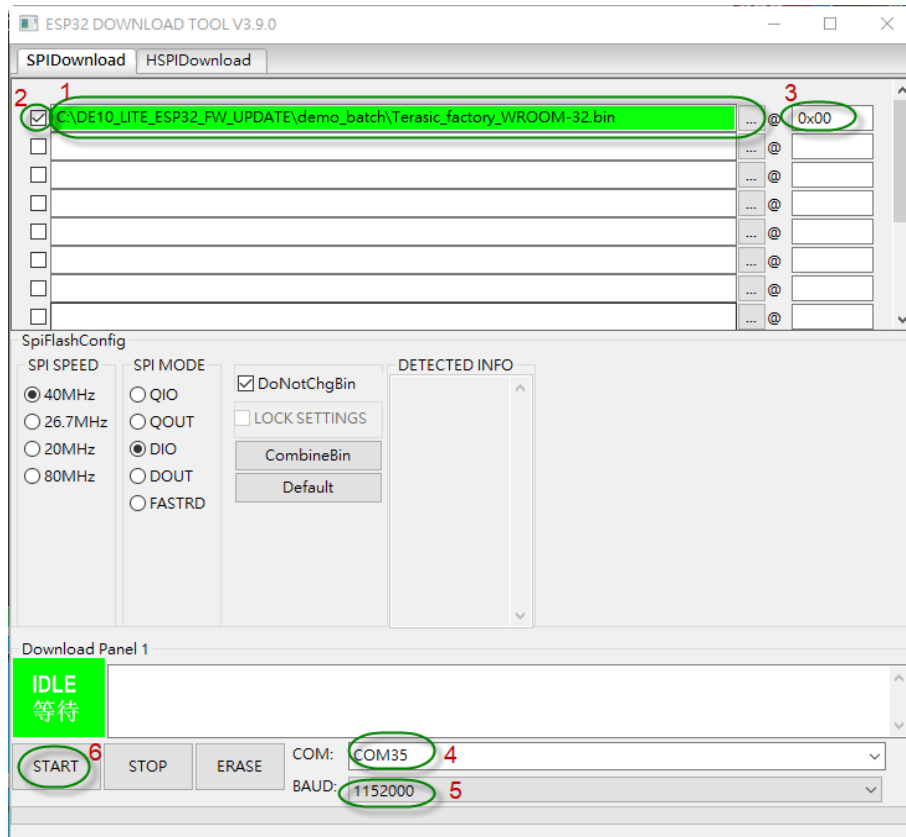

Figure 3-30 ESP32 Download Tool Configure
8. When ESP32 DOWNLOAD TOOL GUI appears, specify firmware location, offset address, comport, board rate, and then click “Start” button as shown in **Figure 3-30**.
8. When ESP32 DOWNLOAD TOOL GUI appears, specify firmware location, offset address, comport, board rate, and then click “Start” button as shown in Figure 3-30.